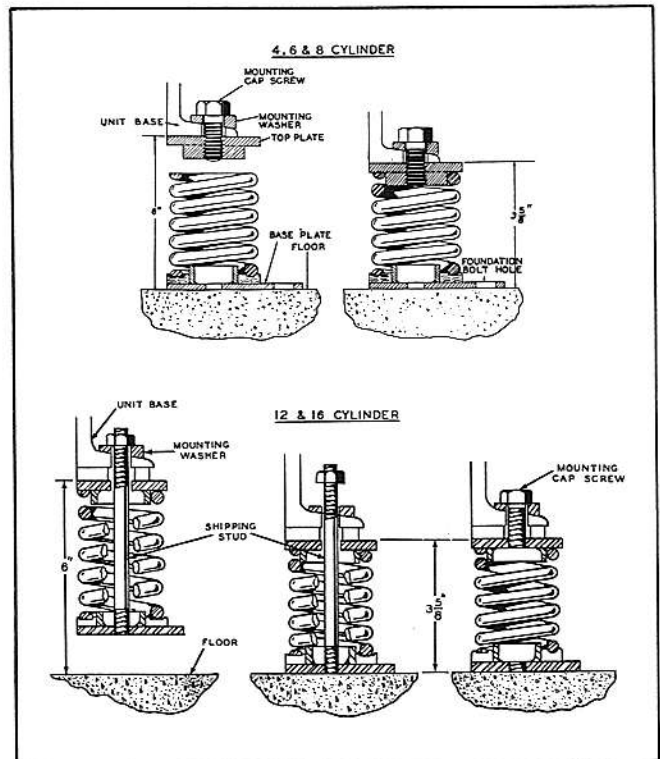

Fig. 13 - Applying the Vibration Isolator
Fig. 13 shows the method of applying these isolator spring assemblies to each side of the base on the 12 and 16 cylinder units. The procedure is as follows:
- (c) Remove the mounting washer, mounting cap screw and shipping stud nut from the isolator unit. (See Fig. 13)
- (e) Place the mounting washer on the shipping stud and fasten the isolator unit to the base with the shipping stud nut. (See Fig. 13) Be sure the springs are properly seated.
- (i) Remove the shipping studs and nuts and install the mounting washer and cap screw. (See Fig. 13)
bolted to the unit base using the mounting washer and cap screw. (See Fig. 13)
- (f) The distance from the floor to the bottom of the unit base should be 3-5/8" at each spring assembly to obtain the approximate loading of 330 lbs. on each spring. (See Fig. 13)